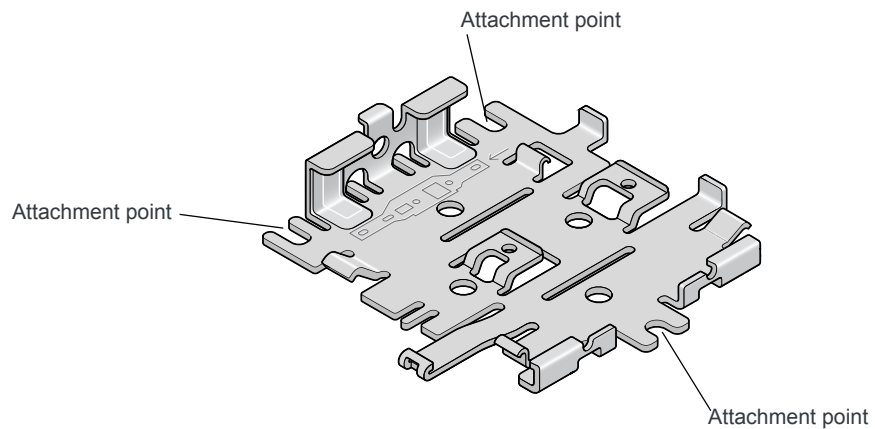

Figure 2-3: Mounting Bracket, showing attachment points
1. Attach the bracket to the mounting surface, using the attachment points shown in Figure 2-3.